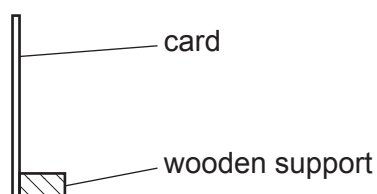

Fig. 5.3
2. The screen can be made from a sheet of white card (15 cm \times 15 cm approx.). Some means of supporting the screen vertically must be supplied (e.g., fixing the white card to a small block of wood) as shown in Fig. 5.3.